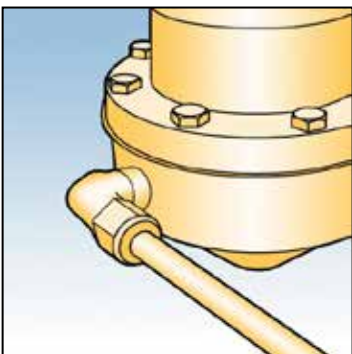

Fig. 3
9. On the CM or SM (monitor) versions only the impulse (or control) line should be connected to the 1/4" NPT tapping, via a suitably sized compression fitting, in the lower diaphragm case. See Fig. 3. This line should be kept clean, unobstructed and protected against breakage. Ensure the downstream or remote tapping is sited to give a true pressure signal; avoid positioning it too close to other valves etc., or wherever there may be a high or low pressure pocket.